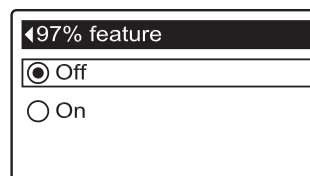

FIG. 72
8c. 97% feature: If the desired option already has a black dot next to it (See Figure 72), go to Step 9. Otherwise, press the DOWN (▼) or UP (▲) buttons to scroll to the other option, then press SELECT (O) to choose it. If this feature is On, the conditioner/refiner will automatically recharge when 97% of capacity is used, at any time of day. Default is Off.